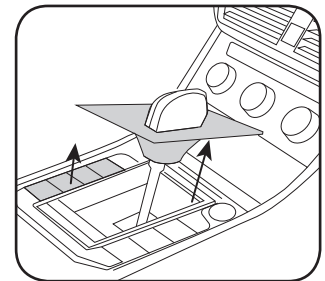

Fig. 1.13
- Pull upward on the shift boot. Reach under start/stop button assembly on driver side and pull upward to release it from console. (Fig. 1.13)